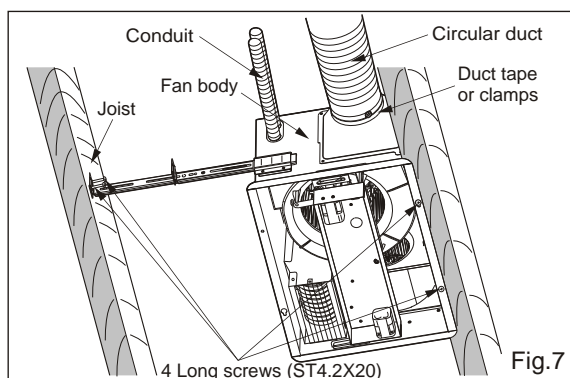

Fig.7
7. Install the circular duct (4 inches) to the adaptor and secure it with duct tape or clamps. (Fig.7)